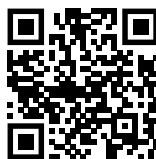

Fig. 133
- ▶ Otevřete Liebherr SmartMonitoring Dashboard. (viz Fig. 133)